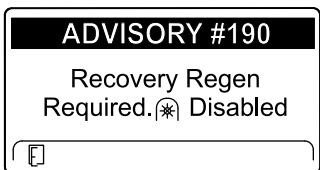

Figure 55
- Recovery regeneration required—power takeoff disabled ADVISORY #190 (Figure 55)